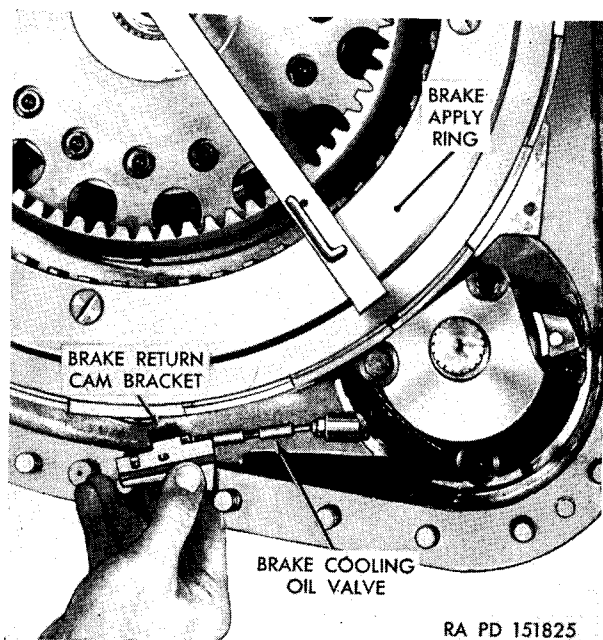

Figure 86. Removing or installing cam bracket and brake lube valve.
- (6) Using a ½-inch wrench, remove one bolt from the brake-return-cam bracket. Remove the brake-return-cam bracket and the brake-cooling-oil valve from the brake-apply-cam rotating ring (fig. 86).